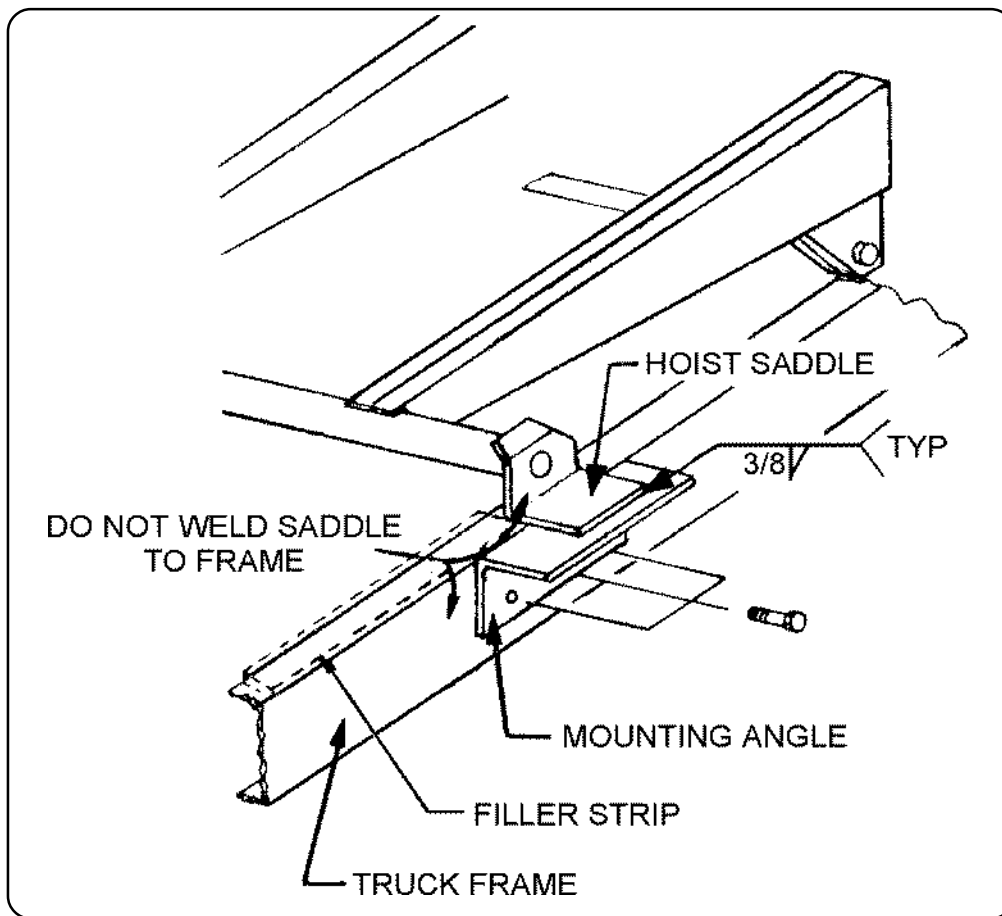

Figure 4 - Mounting Angle Assembly
E. After the hoist is positioned, place the mounting angles (Figure 4) under each side of the hoist saddle and against the truck frame. Clamp securely in place. Drill through the frame (17/32") and install the mounting angle with three (3) 1/2" x 1-1/2" Grade 8 hex head cap screws, lock washers, and hex nuts (both sides).
F. Weld each end of the hoist saddle to its mounting angle as shown in Figure 4. Note the welding symbols. Do not weld to the truck frame.
- I. Position and secure the filler strips (liner or sleeper) to the truck frame (Figure 4).